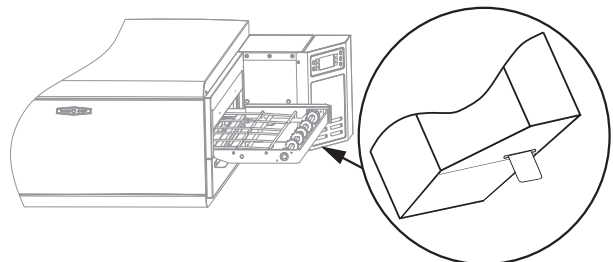

Figure 10: Smart Card Slot Location
1. Insert a smart card chip-first into the smart card slot (fig. 10) with the chip facing the inside of the oven.